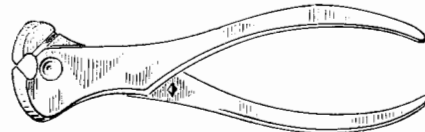

Fig. 217. Cutters.
**Cutters.** A cutter is much sharper than nippers (Fig. 217). It is used to cut off nails, especially those in heels when one or more lifts have been removed. These nails always should be cut off and never driven down.